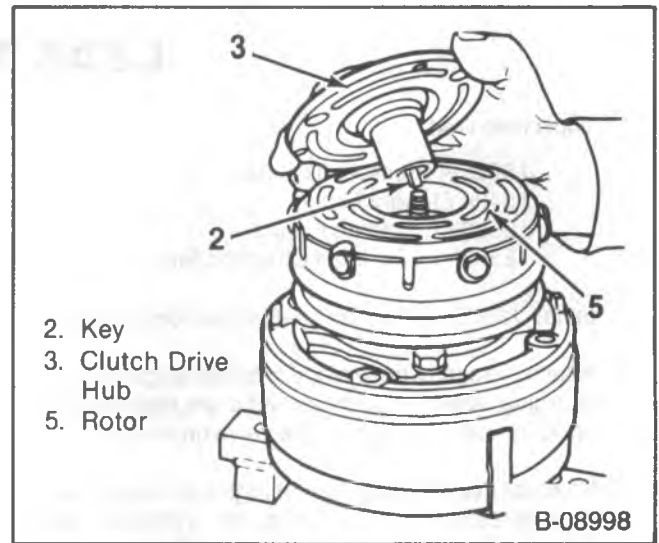

Figure 34—Installing the Shaft Key
1. Shaft key in the groove (figure 34).